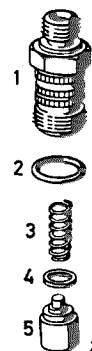

Figure 07-4/26
The pressure valve of the pump 'M' is completely arranged within the pipe connection. The seal between pressure valve and pipe connection is effected, however, by an additional seal ring (4) (see Figure 07-4/26). The function and construction of the pressure valve corresponds in principle to the design of the type 'A' (see section A, item II of Job No. 07-4).